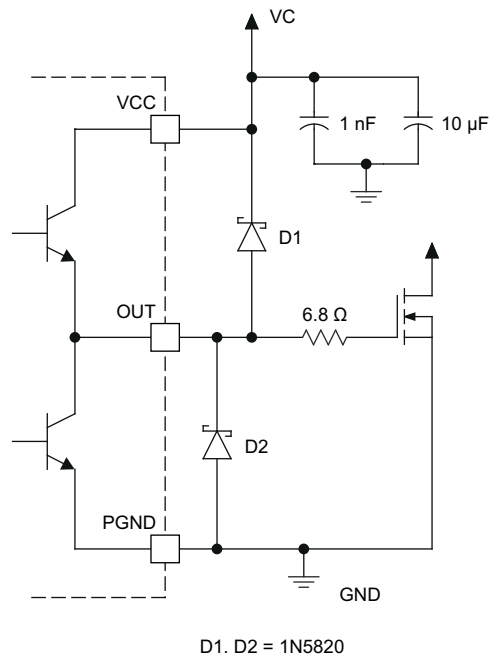

Figure 7-5. Power MOSFET Drive Circuit
Each totem pole output of the UC1825B-SP can deliver a 2-A peak current into a capacitive load. The output can slew a 1000-pF capacitor by 15 V in approximately 20 ns. Separate collector supply (VC) and power ground (PGND) pins help decouple the analog circuitry of the device from the high-power gate drive noise. The use of 3-A Schottky diodes (1N5120, USD245, or equivalent) as shown in the Figure 10-1 from each output to both VC and PGND are recommended. The diodes clamp the output swing to the supply rails, necessary with any type of inductive or capacitive load, typical of a MOSFET gate, as shown in Figure 7-5. Schottky diodes must be used because a low forward voltage drop is required.